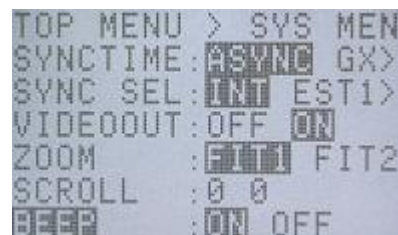

Figure 5-20 BEEP
- 3) Use the arrows   to select "BEEP" from the SYS MENU (Figure 5-20).